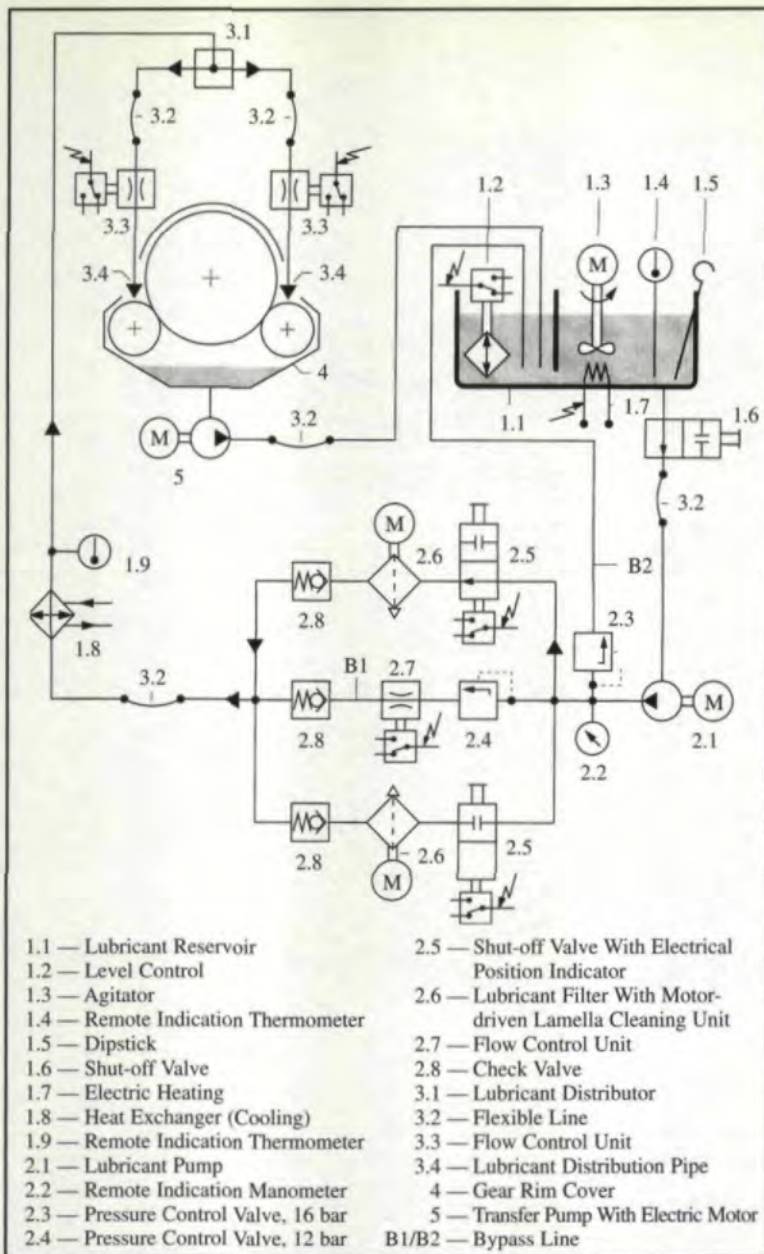

Fig. 5 — Schematic of a circulation lubrication system with various accessories.
A schematic of a circulation lubrication system with various accessories is identified in Fig. 5. From the lubricant reservoir (1.1), which is filled directly from the gear guard (4), or by means of a transfer pump (5), the lubricant is fed by gravity flow to the lubricant pump (2.1) via a